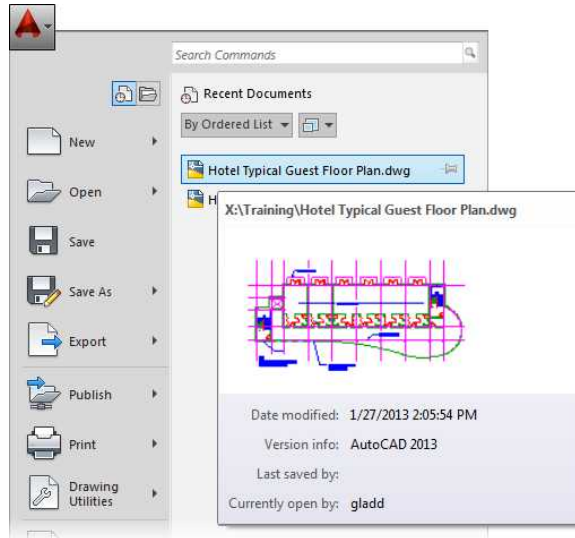

FIGURE 1.26: Displaying a thumbnail of the selected file
4. Hover over a filename in the right pane to display a thumbnail preview of the drawing and additional information, including the drawing location and AutoCAD drawing format (see Figure 1.26).